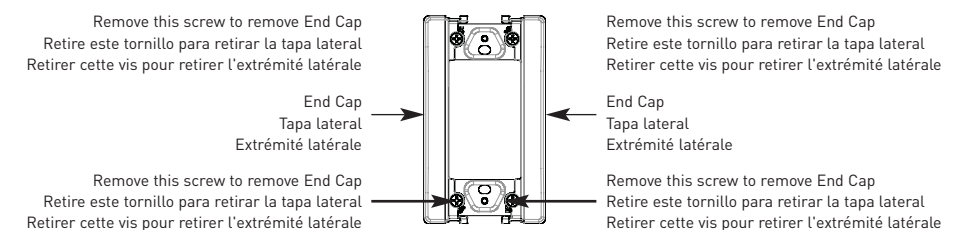

Figure 6 / Figura 6 / Figure 6
- Remove the wall plate (unsnap) and remove the end cap between adjacent devices (2 screws for each end cap). Keep these screws as they will be needed at step #6. (See Figure 6.)